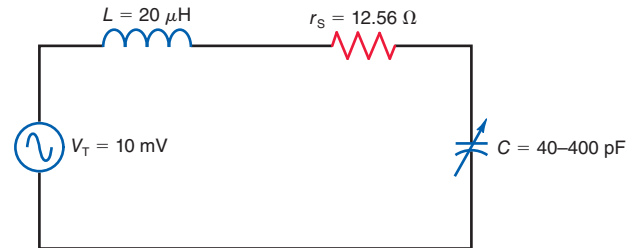

Figure 22-17
- 22.12 In Fig. 22-17, what is the range of resonant frequencies as C is varied from 40 to 400 pF?
- 22.13 In Fig. 22-17, what value of C will provide an f_r of 2.5 MHz?
- 22.14 If C is set at 360 pF in Fig. 22-17, what is the resonant frequency, f_r ? What value of C will double the resonant frequency?
- 22.15 What is the Q of the series resonant circuit in Fig. 22-17 with C set at
- 22.19 With C set at 50.67 pF in Fig. 22-17, calculate the following:
22.23 In Fig. 22-17, calculate the ratio of the highest to lowest resonant frequency when C is varied from its lowest to its highest value.